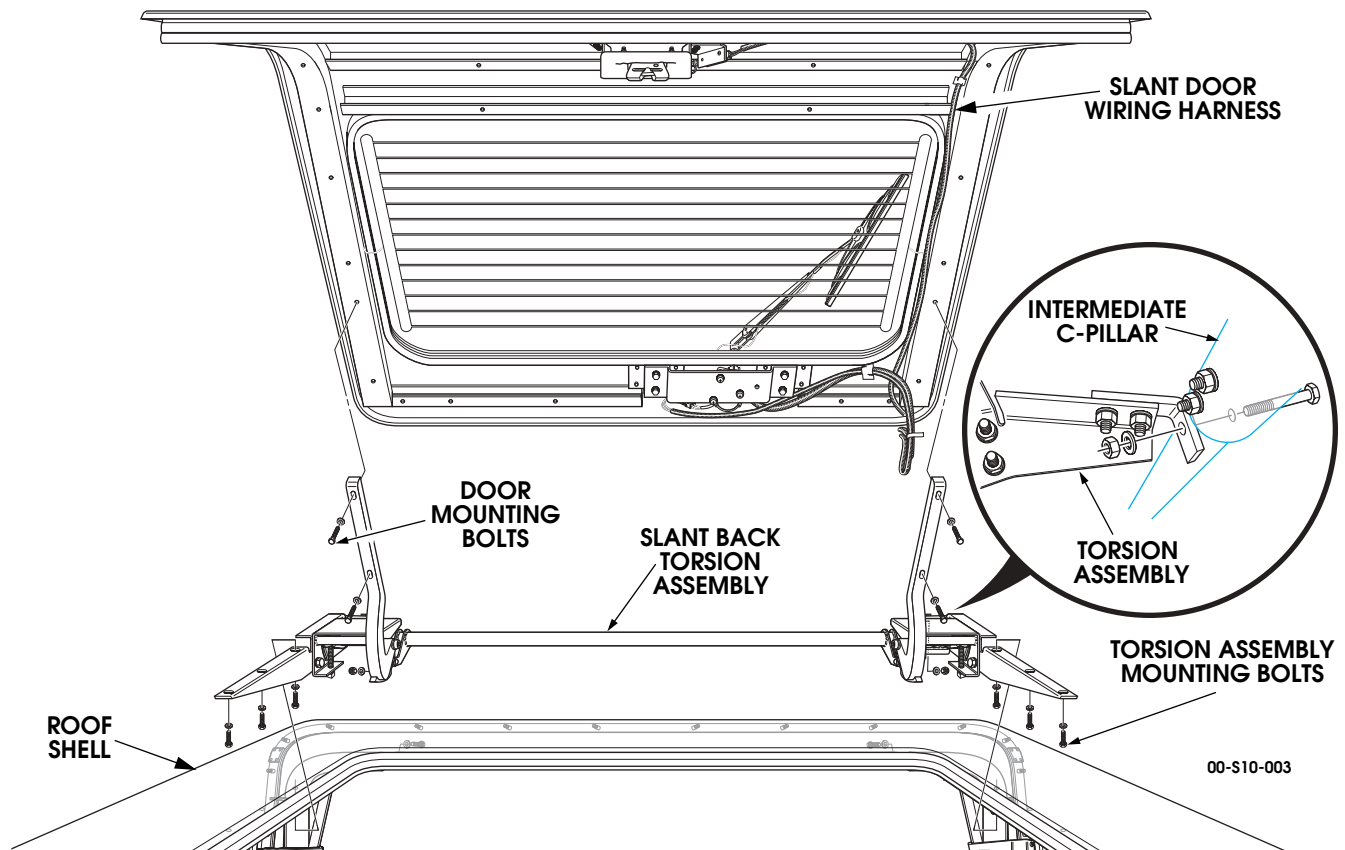

Figure 10-176: Slant Door and Torsion Assembly
4. Using an assistant carefully support the door while removing the door mounting bolts (Figure 10-176). Remove the door.
1. Using the torsion assembly mounting hardware, install the torsion assembly (Figure 10-176). Do not fully tighten at this time (See Adjustments).
1. Loosen the torsion assembly mounting bolts enough to allow the slant door to move side to side (Figure 10-176).